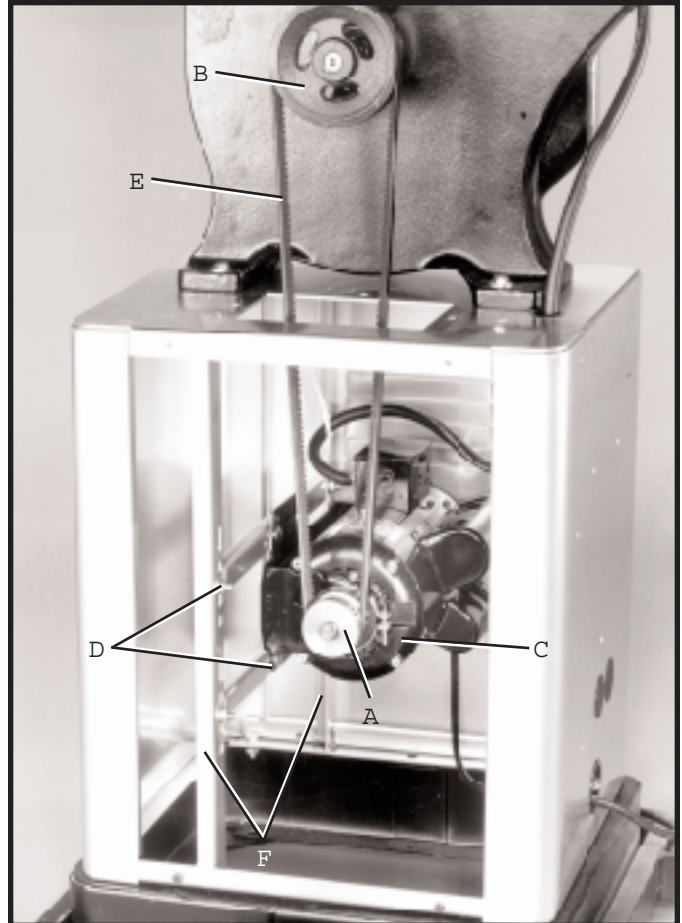

Fig. 16
1. Using a straight edge, align motor pulley (A) Fig. 16, to the driven pulley (B). If necessary, both pulleys can be adjusted inward or outward. The motor (C) can also be adjusted on the motor mounting bars (D).
2. Assemble the V-belt (E) Fig. 16, to pulleys (A) and (B) and adjust the belt tension by raising or lowering the motor (C) on the motor mounting bars (D). If necessary, the motor mounting bars (D) can be repositioned on two vertical posts (F). NOTE: Make certain the pulleys are kept in alignment when doing this. Correct belt tension is obtained when there is approximately 1" deflection, using light finger pressure at the centerspan of the pulleys.